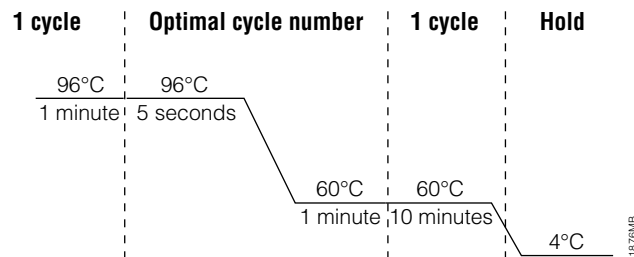

Figure 31. Thermal cycling protocol for the GeneAmp® PCR System 9700, Veriti® 96-Well Thermal Cycler and ProFlex® PCR System.
- Select and run the recommended protocol, which is provided below and in Figure 31. The total cycling time is approximately 1 hour.